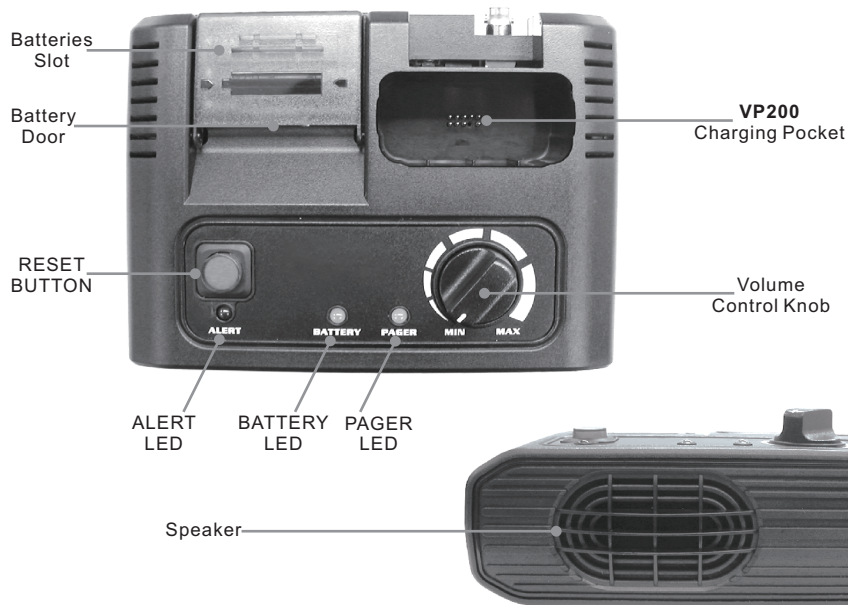

Fig. 2. Charger Amplifier Front View
All models have two separate charging compartments. One charging compartment accommodates a pager with the batteries installed, the other one for charging spare batteries. A charging-status LED indicator is provided for each charging compartment. These are labeled BATTERY and PAGER. The BATTERY indicator lights when spare batteries are being charged. The PAGER indicator lights when a pager with installed batteries, is being charged. If the pager is turned on when it is installed in the charger/amplifier, reception of a valid page causes the red ALERT LED to light and the audio message to be heard through the charger/amplifier speaker. (see **Fig.2**)
The pager-charging compartment accommodates a **VP200**. (see **Fig.2**)
2. When a pager and batteries are inserted in the charger at the same time, pager pocket has priority. After pager pocket has completed rapid charging, then the batteries follows with rapid charging (BATTERY LED solid red). Otherwise, charging is completed on first come first charged basis. As pager and battery may be inserted in the charger simultaneously. The first item inserted, pager or batteries will have priority in the charge cycle. For example, if the batteries are placed in the battery slot and then the pager in the pager pocket, the batteries will be charged first. The BATTERY indicator light will be solidly lit red and the PAGER indicator light will be orange. Once the batteries are fully charged, the pager will be charged. (see **Fig.2**)